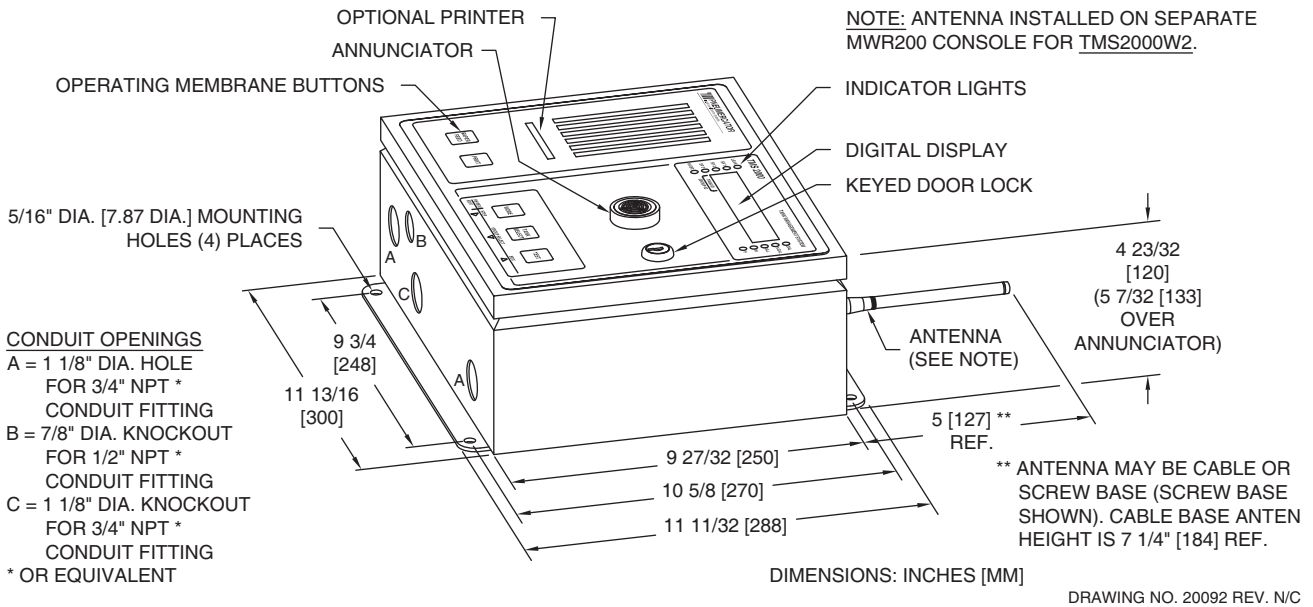

Figure 1-2 - TMS2000 Console Outline
Figure 1-2 illustrates the TMS2000W outline and dimensions. All configurations are equipped with 1 RS-232 serial port, 1 RS-485 serial port, 2 fully programmable relay outputs/2 dry contact inputs, NEMA 12 enclosure. There are eight (8) basic configurations available:
The standard TMS2000W console enclosure is NEMA 12-rated for indoor installation. An optional NEMA 4/4X enclosure is available for outdoor installation. Confirm enclosure rating on the approval label located on the exterior, left-hand side of the enclosure before installation outdoors. See Figure 1-2 below for mounting flange locations and dimensions.
Select a flat wall surface and prepare it with four wall-mounting inserts to accept up to 1/4-inch size bolts. Allow sufficient room for door to open and for conduit runs to enter **ONLY THE CONSOLE BOTTOM**. See Figure 1-2 for console dimensions.